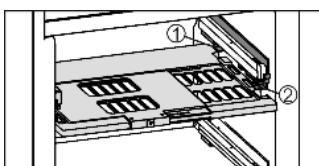

Fig. 16
- To insert the humidity control plate: Insert the cover mouldings of the plate into the rear holder *Fig. 16 (1)* from underneath and engage them in the holder *Fig. 16 (2)* at the front.